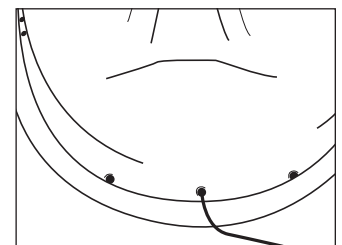

Figure 24
5. Thread the battery assembly wire through the middle hole (Figure 24).